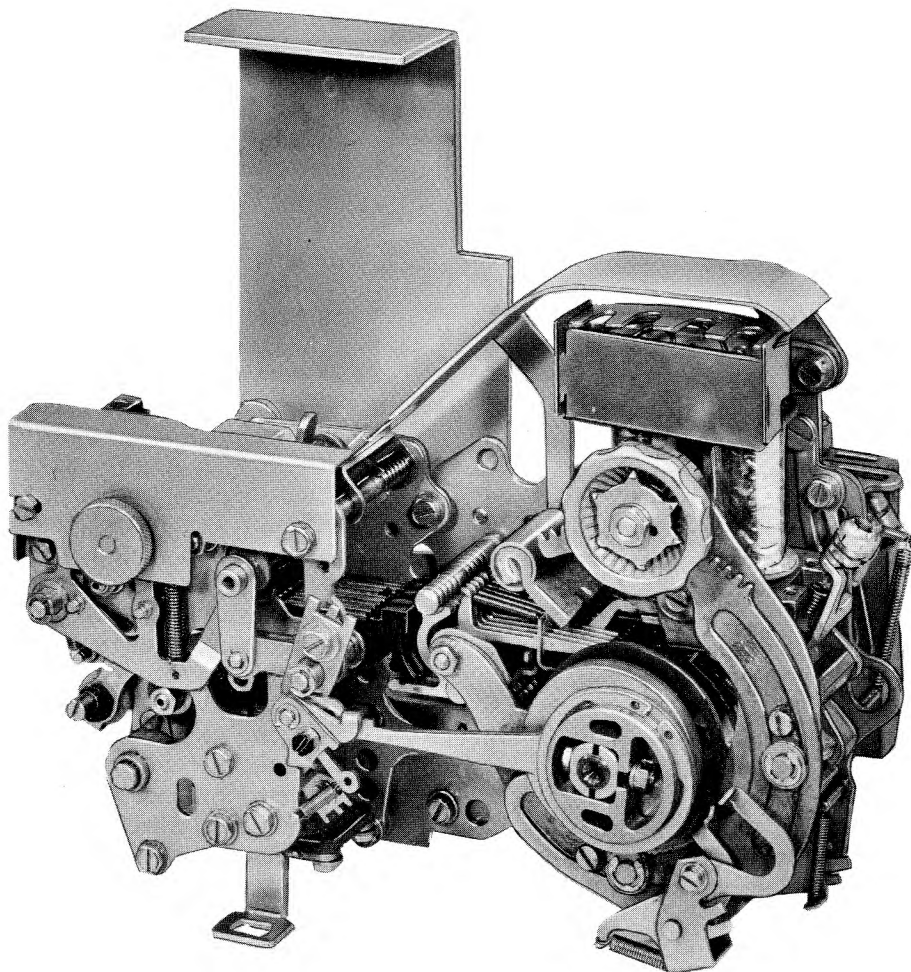

Figure 1 - 35 Non-Typing Reperforator (Right Front View)
1.02 This section contains specific requirements and adjustments for the 35 Non-Typing Reperforator (Fig. 1). The basic equipment includes selector mechanism, fully perforating punch mechanism and power driven backspace mechanism. The unit is designed for adaptation either by a single shaft or by a main shaft and jack shaft to power supplied from a base mounted motor. Where there are differences in the adjustment procedures for single shaft and double shaft units, these are noted in the adjustment text and illustrations. Motors and bases are covered in the applicable sections.